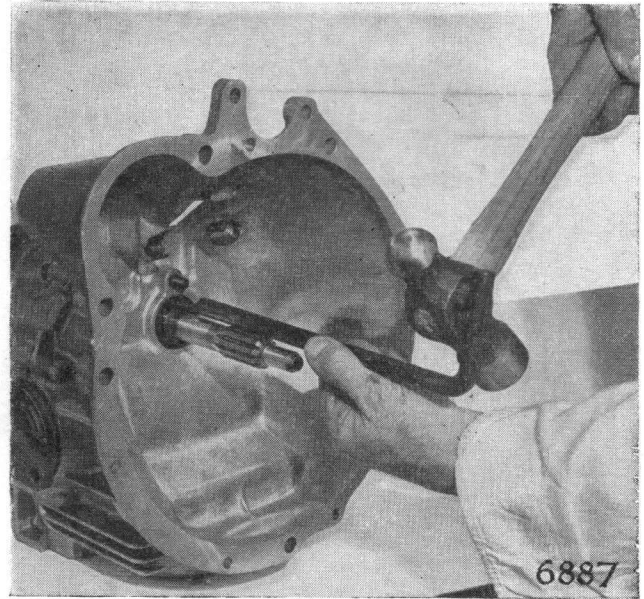

Fig. 53. Remove clutch shaft oil seal
**Clutch shaft oil seal (See Fig. 53)**
Withdraw the oil seal by tapping against the handle of the tool. (See Fig. 53.)